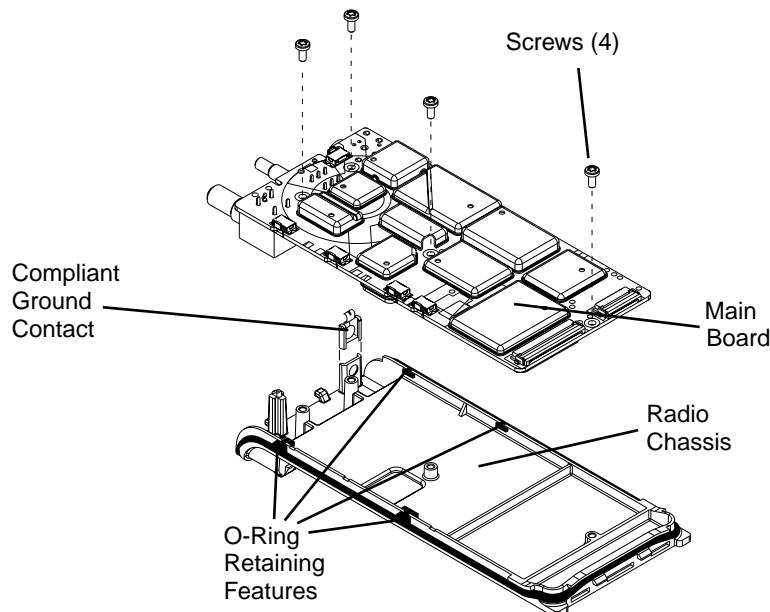

*Figure 3-4. Unlatching Flex Connectors*
10. Lift the latches on the main circuit board to release the flexes from their connectors as shown in Figure 3-4.